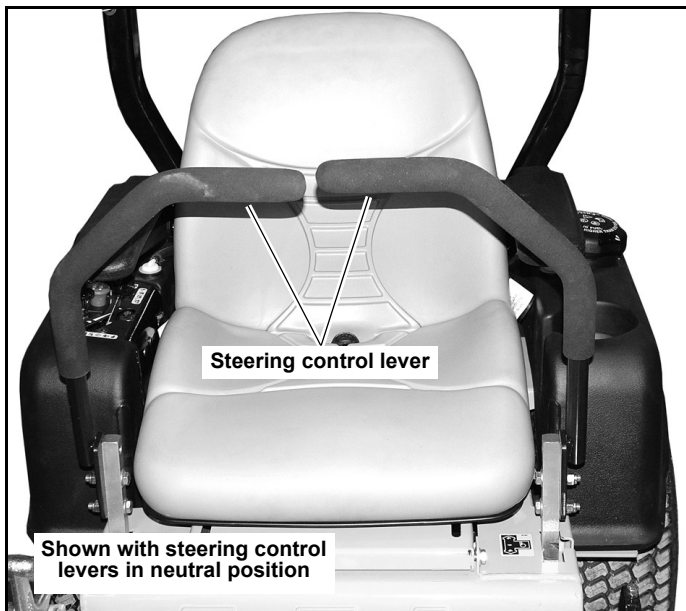
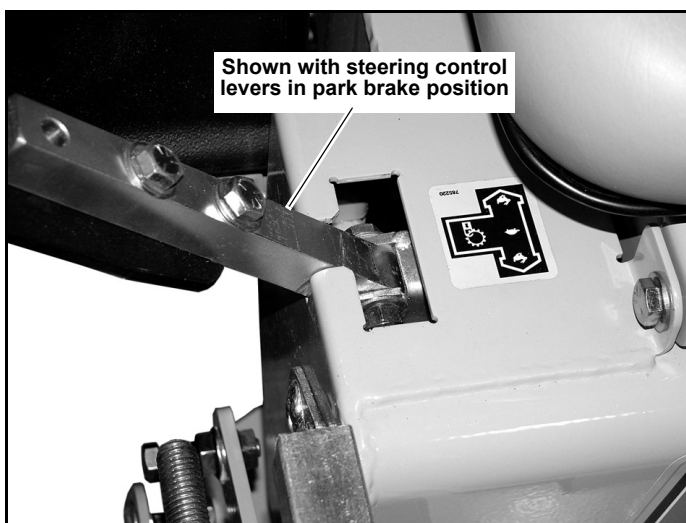

Figure 3-3
Figure 3-4
A. **Steering control levers (Figure 3-3 & Figure 3-4)** — these levers control the mower’s speed, direction, stopping, and park brake. These levers are used to steer, accelerate, decelerate and change direction. When the steering control levers are in the park brake position the mower will not move when the engine is on and the drive